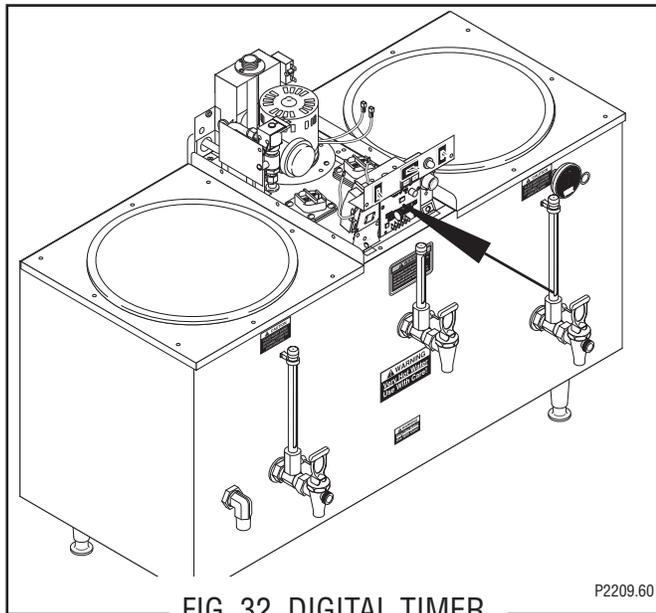

FIG. 32 DIGITAL TIMER
2. Check for continuity across the two terminals on the switch at L1 BLK and BLK to Main Harness when it is held in the lower position, Fig. 32. Check for continuity across the two terminals on the switch at L2 RED and RED to Main Harness when it is held in the lower position. Continuity must not be present across these terminals in the upper position.